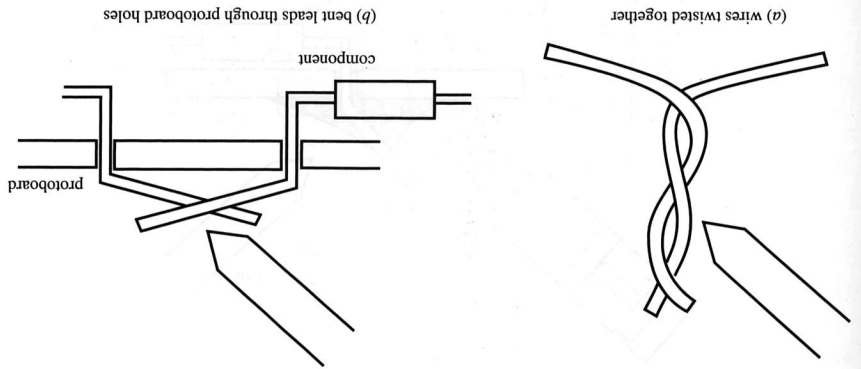

Figure 2.42 Preparing a soldered joint.
- (3) Make a mechanical connection between the wires to be joined, either by bending or twisting, and ensure the components are secure so that they will not move when you apply the iron. Figure 2.42 illustrates two wires twisted together and a component inserted into a protoboard in preparation for soldering.
- (4) Heating the wires and metal surfaces to be joined is necessary so that the solder properly wets the metal for a strong bond to result. When soldering electronic components, practice in heating is necessary so that the process is swift enough to not damage components. Soldering irons with sharper tips are convenient